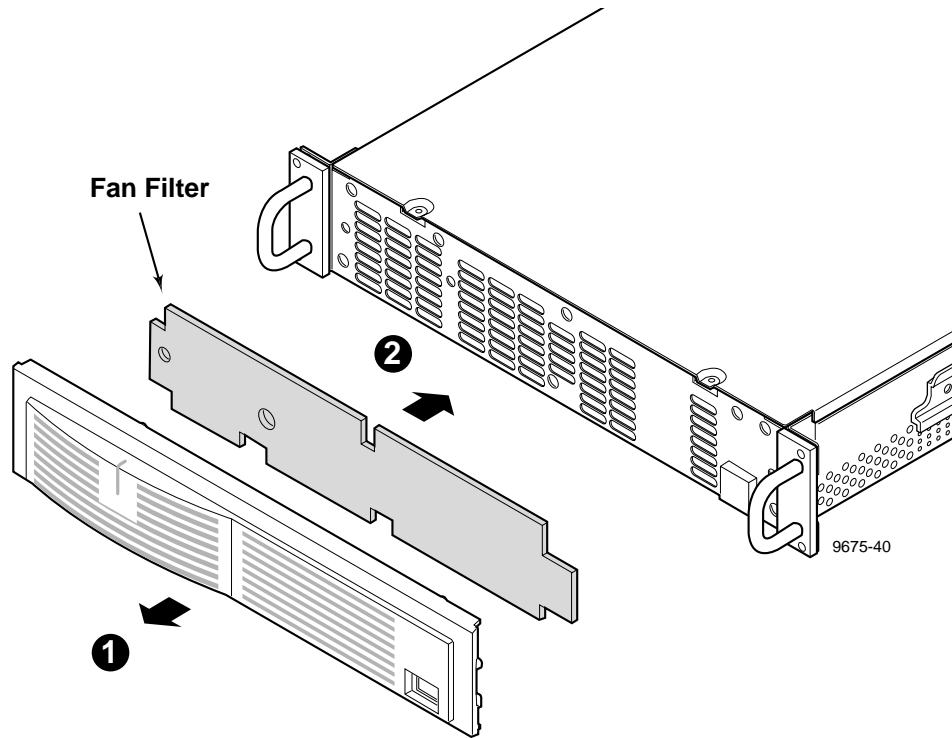

Figure 5-4. PAC208/216 Filter Removal
2. Place face down and remove the filter from the mounting posts on the inside of the bezel (Figure 5-4).
1. Place the front panel bezel face down and attach the filter to the mounting posts on the inside of the bezel (Figure 5-4).